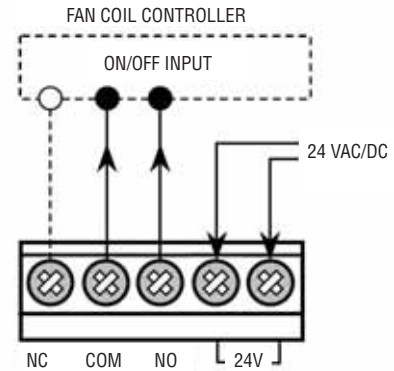

Figure 2
- Connect the cable to the corresponding terminals as shown in Figure 2.